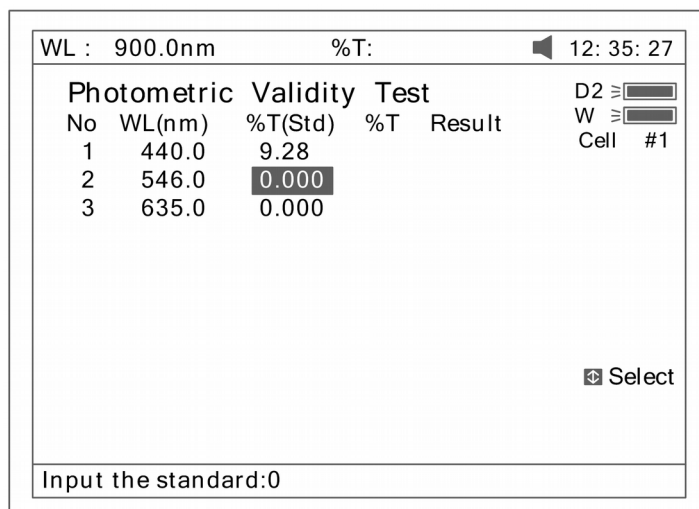

Fig 91
2. Press **(F1)** to set the standard value, Press **(ENTER)** to edit and input by pressing the numeric keypad (Fig 91). **(ESC/STOP)** to finish inputting and exit.